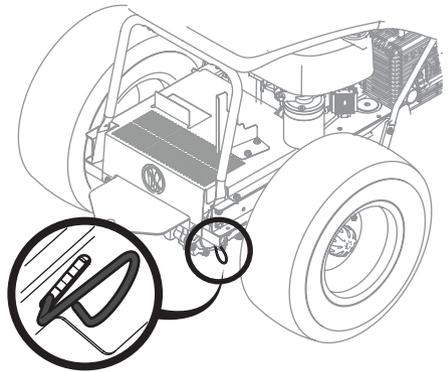

Figure 1
1. Engage the transmission bypass rod to move the riding mower manually without starting it. The transmission bypass rod is located on the inside of the right tire near the rear of the riding mower. Engage the bypass rod by pulling out and down. See Figure 1.
2. Disengage the bypass rod by lifting up and allowing the rod to move back in after moving the riding mower. See Figure 1.